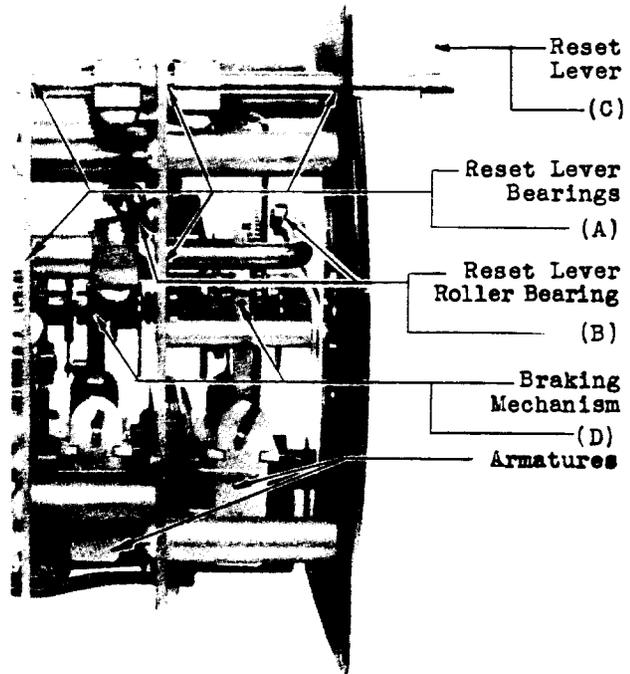

Fig. 4 - Reset Lever Linkage and Bearings
- Fig. 4 (A).
- Fig. 4 (B).
2.06 Position of Reset Lever - Fig. 4 (C): The reset lever shall restore to its uppermost position after it has been operated and then released.
2.07 Operation of Braking Mechanism - Fig. 4 (D): The braking mechanism shall stop the associated disc from